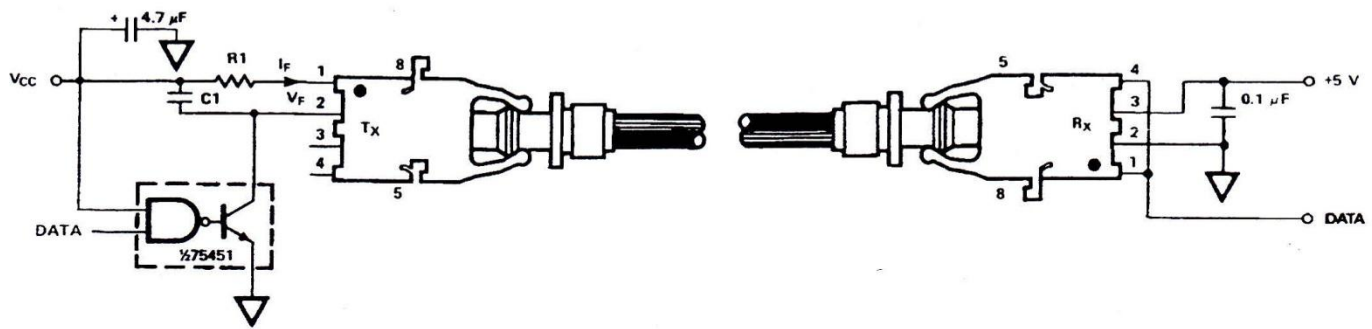

Figure 11. Required 1 MBd Interface Circuit.
3. The LED drive circuit of Figure 11 is required for 1 MBd operation of the HFBR-25X2/25X4.
The HFBR-25X2 receiver can not be overdriven when using the required interface circuit shown in Figure 11.